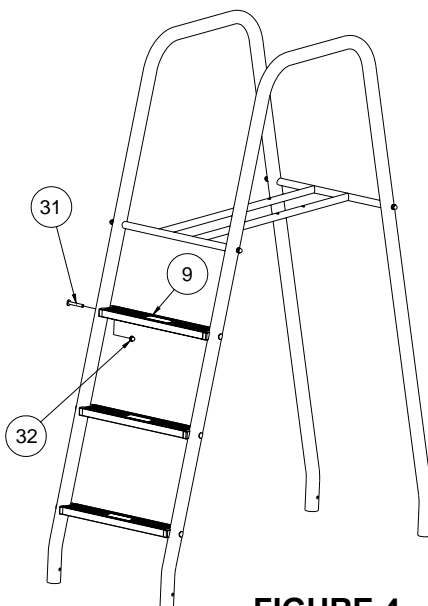

FIGURE 4
6. Position **20" Elite Tread (item 9)** between PLS-204 Left and Right frames three (3) places. Install **3/8" Cradle Head Bolt (item 31)** through frame and steps, six (6) places. Place **3/8" Hex Nut (item 32)** over the ends of the Cradle Head Bolts as shown in **FIGURE 4**. Do not tighten at this time.